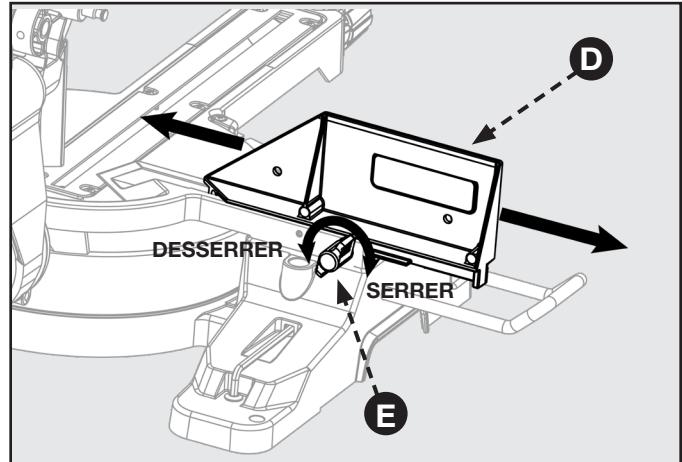

FIGURE 25
This saw is equipped with an adjustable extension fence. To extend or retract the fence refer to Figure 25 and follow these instructions: Loosen the wing nut (E) by rotating counterclockwise and the slide the fence (D) into the desired position. Make sure to re-righten wing nut (E) by rotating clockwise.